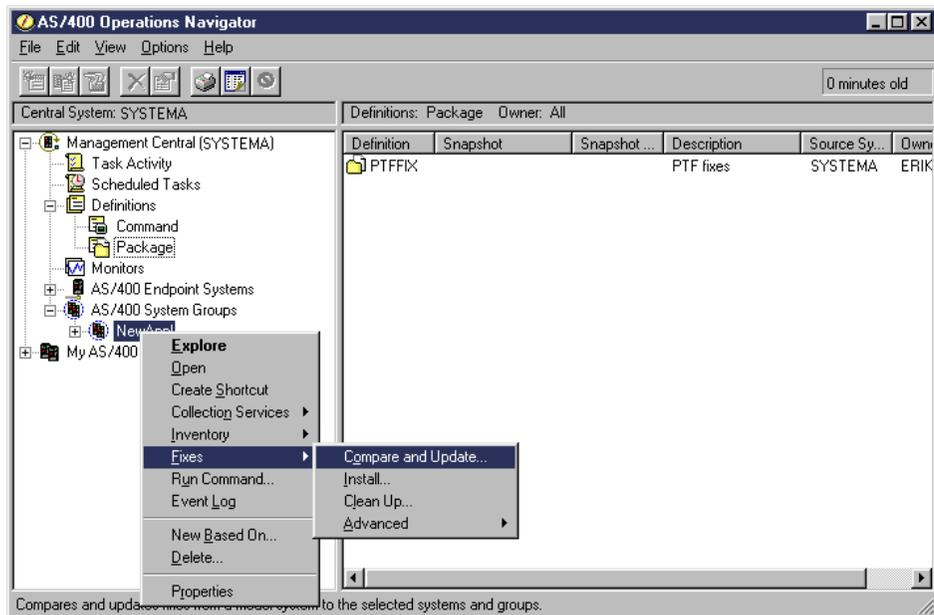

Figure 27. Sending Fixes Using Management Central
2. Click on **Fixes**—>**Compare and Update** (Figure 27 on page 67).